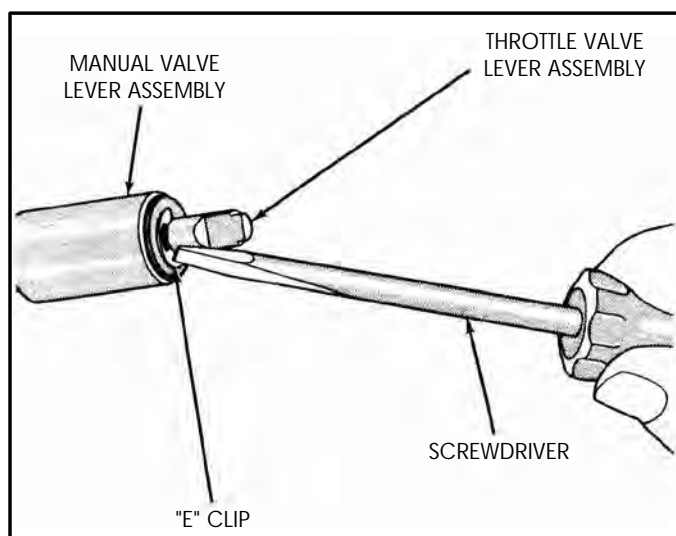

Figure 96
6. Remove the "E" clip from throttle shaft using a screwdriver, as shown in Figure 96.